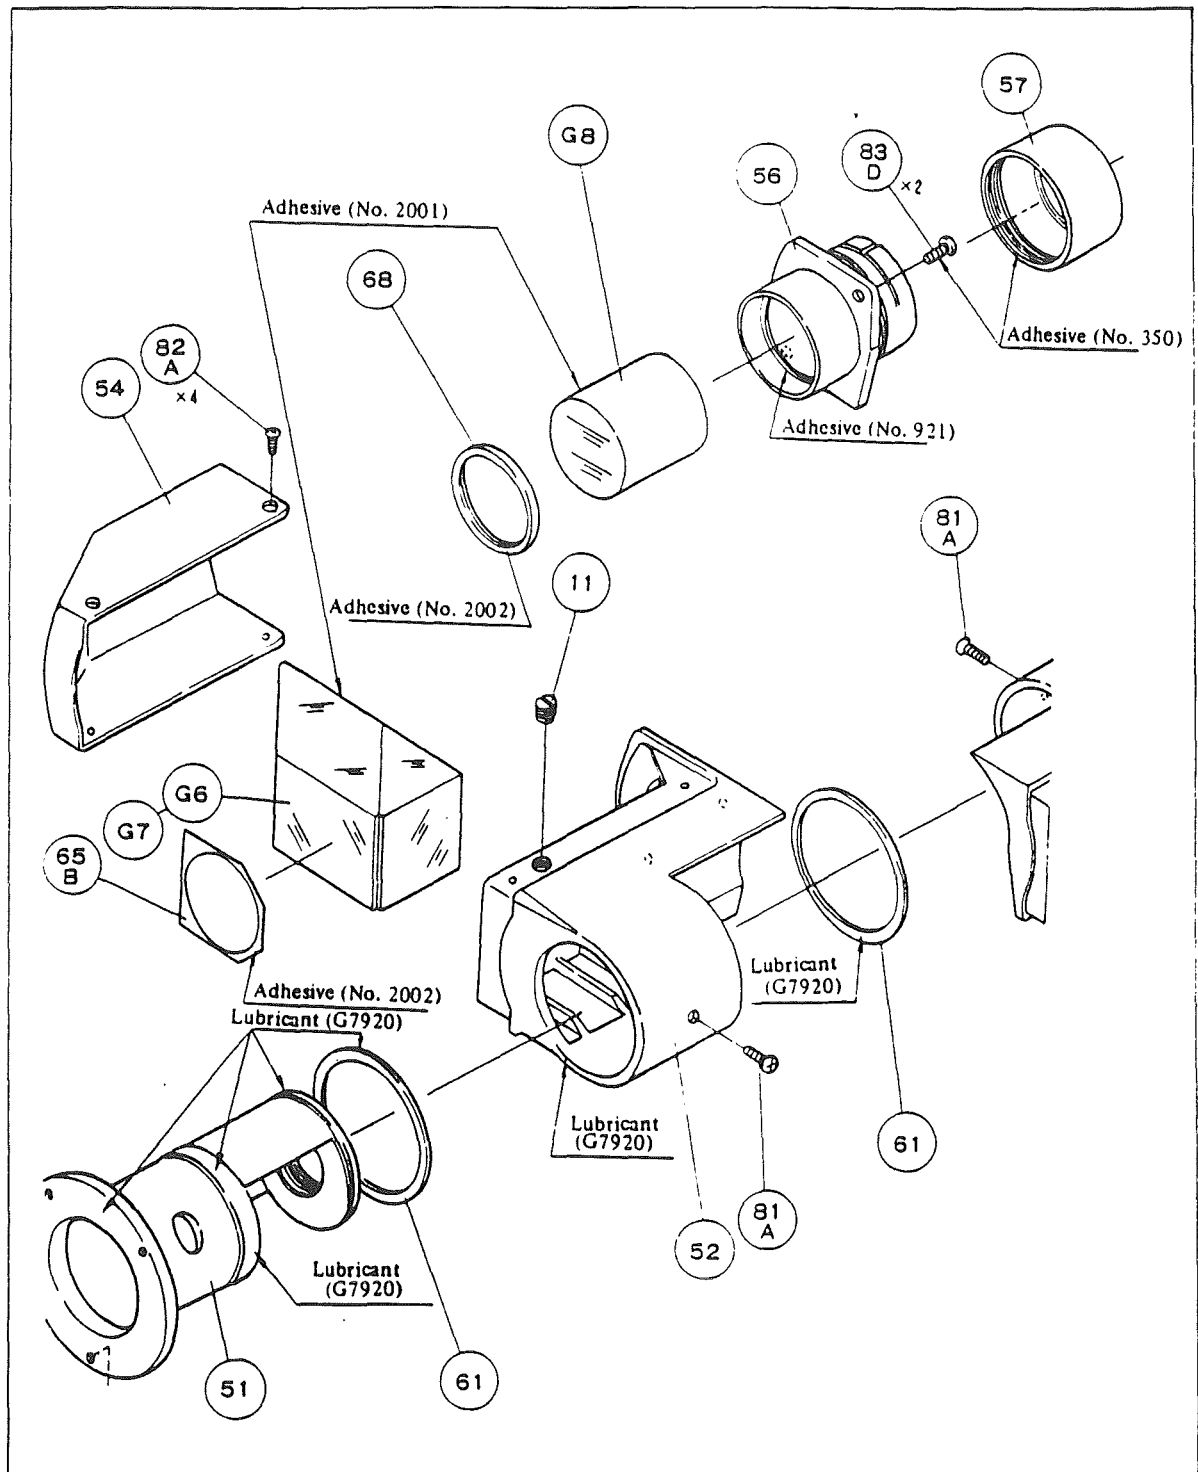

Fig. 9
- When taking off Photo-tube sleeve (4) out of internal tube (3), mark off a line on the sleeve (4), to regain the original position.
2) To disassemble the binocular body, refer to Fig. 9 and 10.**3) To disassemble the depression prism unit, refer to Fig. 8, taking the cautions as below:**
- Do not remove simultaneously both the dovetail grooves (15) from bottom plate (17), because either is to be used as fiducial, when reassembling.